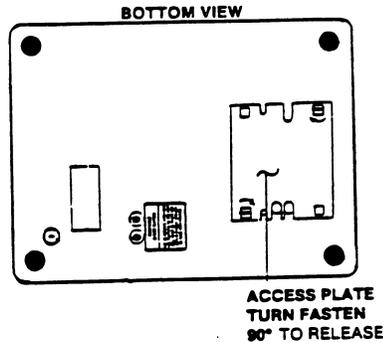

Figure 1
5.2.1 Locate the access plate under the Scale Base.(See Figure 1)
5.2.2 Turn the Access Plate Fasteners 90 degrees to release and remove the plate. (Figure 1)
- 6.2.1 Place the ON/OFF switch (Figure 1, Section 3), to the "ON" position